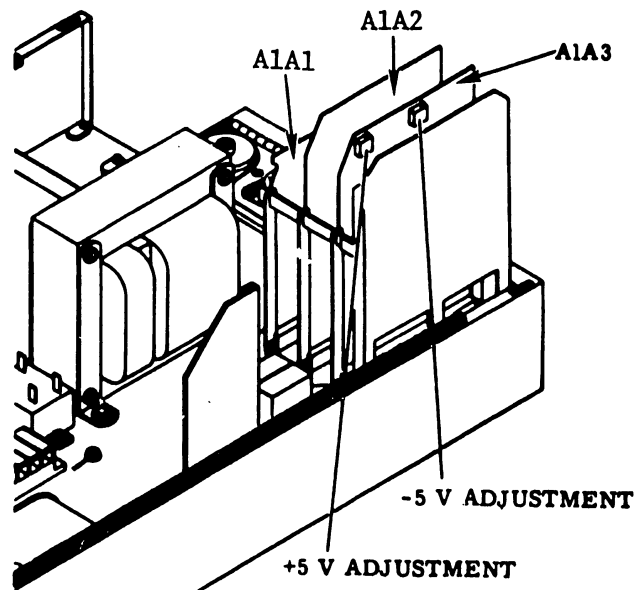

FIGURE 4-4 POWER SUPPLY ADJUSTMENT LOCATIONS
- D. Apply DC power by means of the DC breaker on the rear panel of the disk drive. Using a DVM, check for the following voltages on the fuse terminals at the top of the power supply cards (see Figure 4-4 for PCB locations). Check both terminals at each fuse.
3. The +5 volt output should be $+5.10 \pm 0.05$ volts. If it is not, adjust the +5V potentiometer on card A1A3 (see Figure 4-4) to obtain the correct voltage.
5. The -5 volt output should be -5.10 ± 0.05 volts. If it is not, adjust the -5V potentiometer on card A1A3 (see Figure 4-4) to obtain the correct voltage.